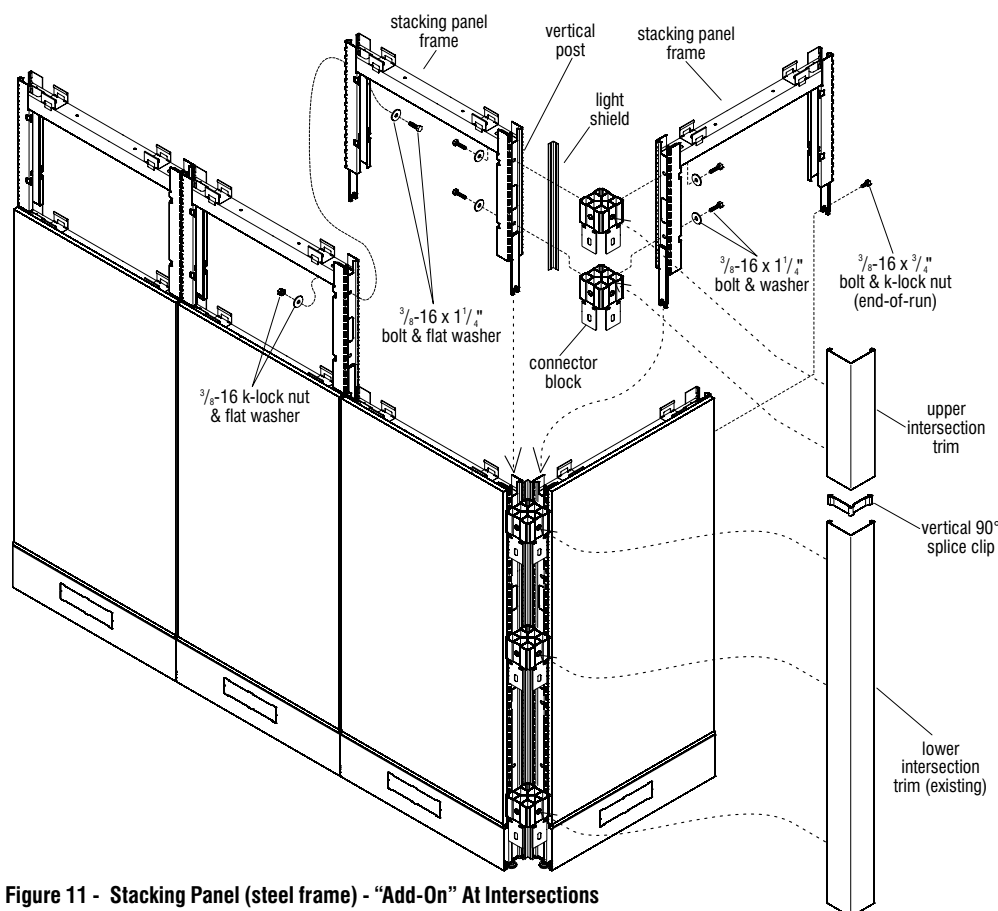
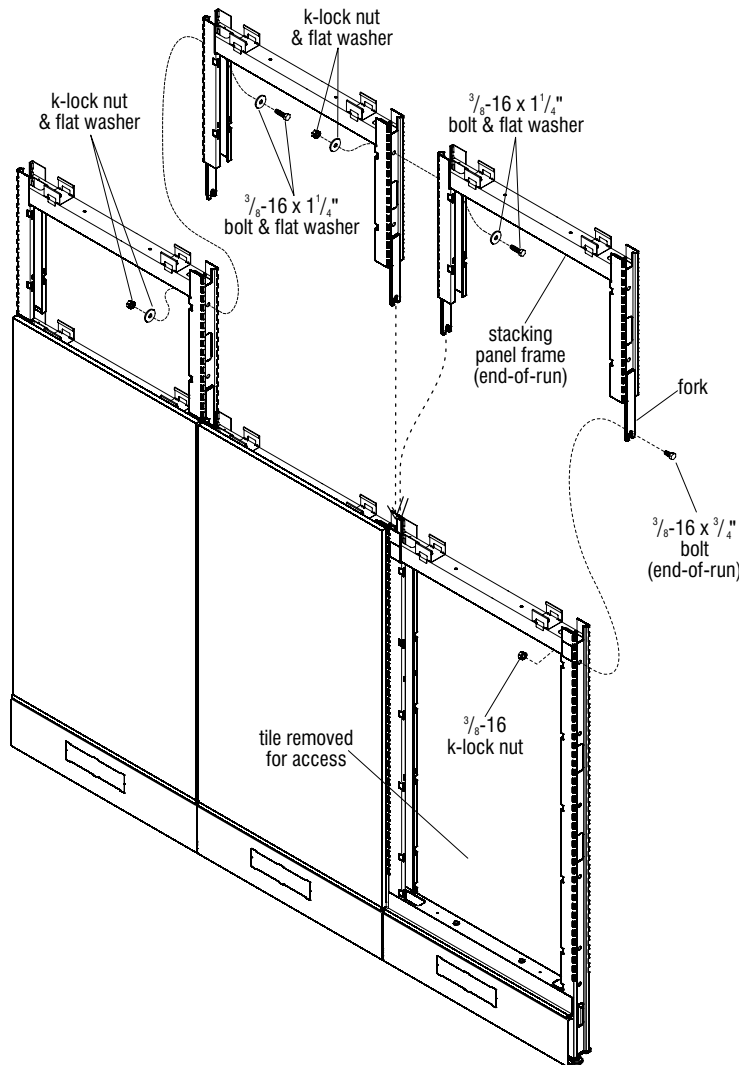

Figure 11 - Stacking Panel (steel frame) - “Add-On” At Intersections
Figure 17 - Stacking Panel (steel frame) In-Line Installation
**Important:** When "add-on option" stacking panel frames are ordered after original space planning/installation to be installed to existing panel intersections, the light shield and trim will ship in two pieces to install in two pieces (Page 11, Figure 11).
1. Prior to proceeding with "Full-Height Stacking Panel (steel frame) Intersections", see "Stacking Panel (steel frame) In-line Installation" (page 17, Figure 17) and assemble stacking panel frames over lower panel frames as instructed.
**Note:** Stacking panels are an “add-on” panel option, which are installed to existing panel configurations. Stacking panel frames at intersections receive stacking intersection trim, which is spliced to existing lower intersection trim so is not continuous in length. Stacking panel frames receive tiles, similar to that of standard panels. The installation of in-line stacking panel frames is covered later in this manual (page 17, Figure 17). The following steps and Figure 11 illustrate the intersection connections.
**Important:** Stacking panel frames have “forks” that drop into the tops of standard panel frames (after the top caps are removed) and do not require a fastener (Figure 11).
2. When assembling stacking panel frames at intersections, loosely attach two connector blocks to the stacking panel. Use a  $\frac{3}{8}$ -16 x  $1\frac{1}{4}$  hex head bolt and large flat washer to attach one connector block to the lowest mounting hole in the stacking frame and one to the highest mounting location (Figure 11).
4. Tighten all  $\frac{3}{8}$ -16 x  $1\frac{1}{4}$  hex bolts securing panel frames to connector blocks at the intersection (Figure 11).
- 4a. In-line Stacking Panel Frames: Attach each stacking panel frame to the one next to it at the top, similar to standard panel frames by using a  $\frac{3}{8}$ -16 x  $1\frac{1}{4}$  bolt, two washers and a  $\frac{3}{8}$ -16 k-lock nut (Figures 11 & 15).
- 4b. End-of-Run Stacking Panel Frames: At end of a run conditions, the stacking panel “fork” must be secured to the end panel frame using a  $\frac{3}{8}$ -16 x  $\frac{3}{4}$  bolt and  $\frac{3}{8}$ -16 k-lock nut (Figures 11 & 14).
6. Original, lower vertical corner intersection trim should be hung back onto the connector blocks, then a vertical 90° splice clip must be slid into the top of the intersection trim. Upper intersection corner trim then hangs onto the stacking panel frame connector blocks and slides onto the top of the installed vertical 90° splice clip to keep it aligned (Figure 11).
**Important:** Stacking panel frames have "forks" that slide into the tops of standard panel frames (after the top caps are removed) and snug the stacking panel frames in place (Figure 17).
- As illustrated, press or carefully tap the stacking panel frames down into position using a rubber mallet. In-line stacking panel frames attach to each other at the top inside of each frame using a  $\frac{3}{8}$ -16 x  $1\frac{1}{4}$ " bolt, two washers and a  $\frac{3}{8}$ -16 k-lock nut (Figure 17).
- At the end of a run of stacking panel frames, the "fork" must be secured to the end panel frame using a  $\frac{3}{8}$ -16 x  $\frac{3}{4}$ " bolt and k-lock nut. To install this, one tile must be removed from the end panel to gain access (Figure 17).